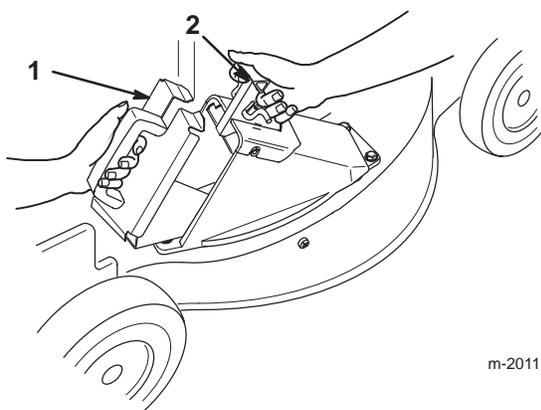

Figure 12
2. Open the discharge door by moving the discharge door handle rearward (Fig. 12).